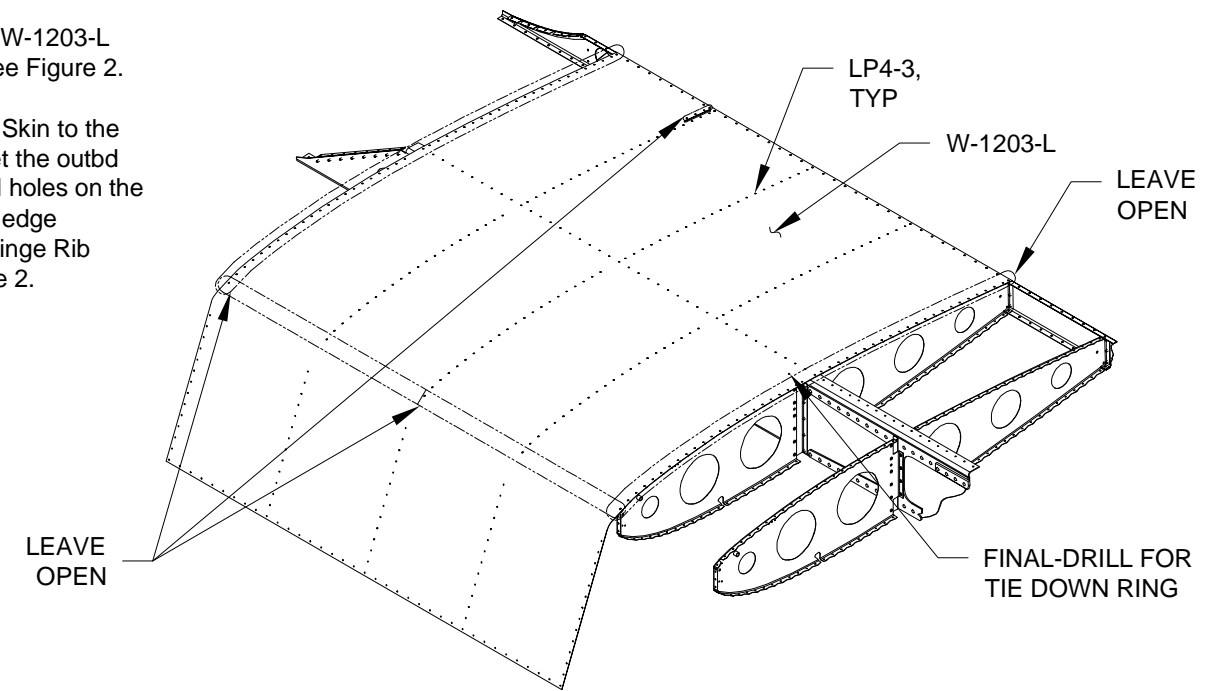
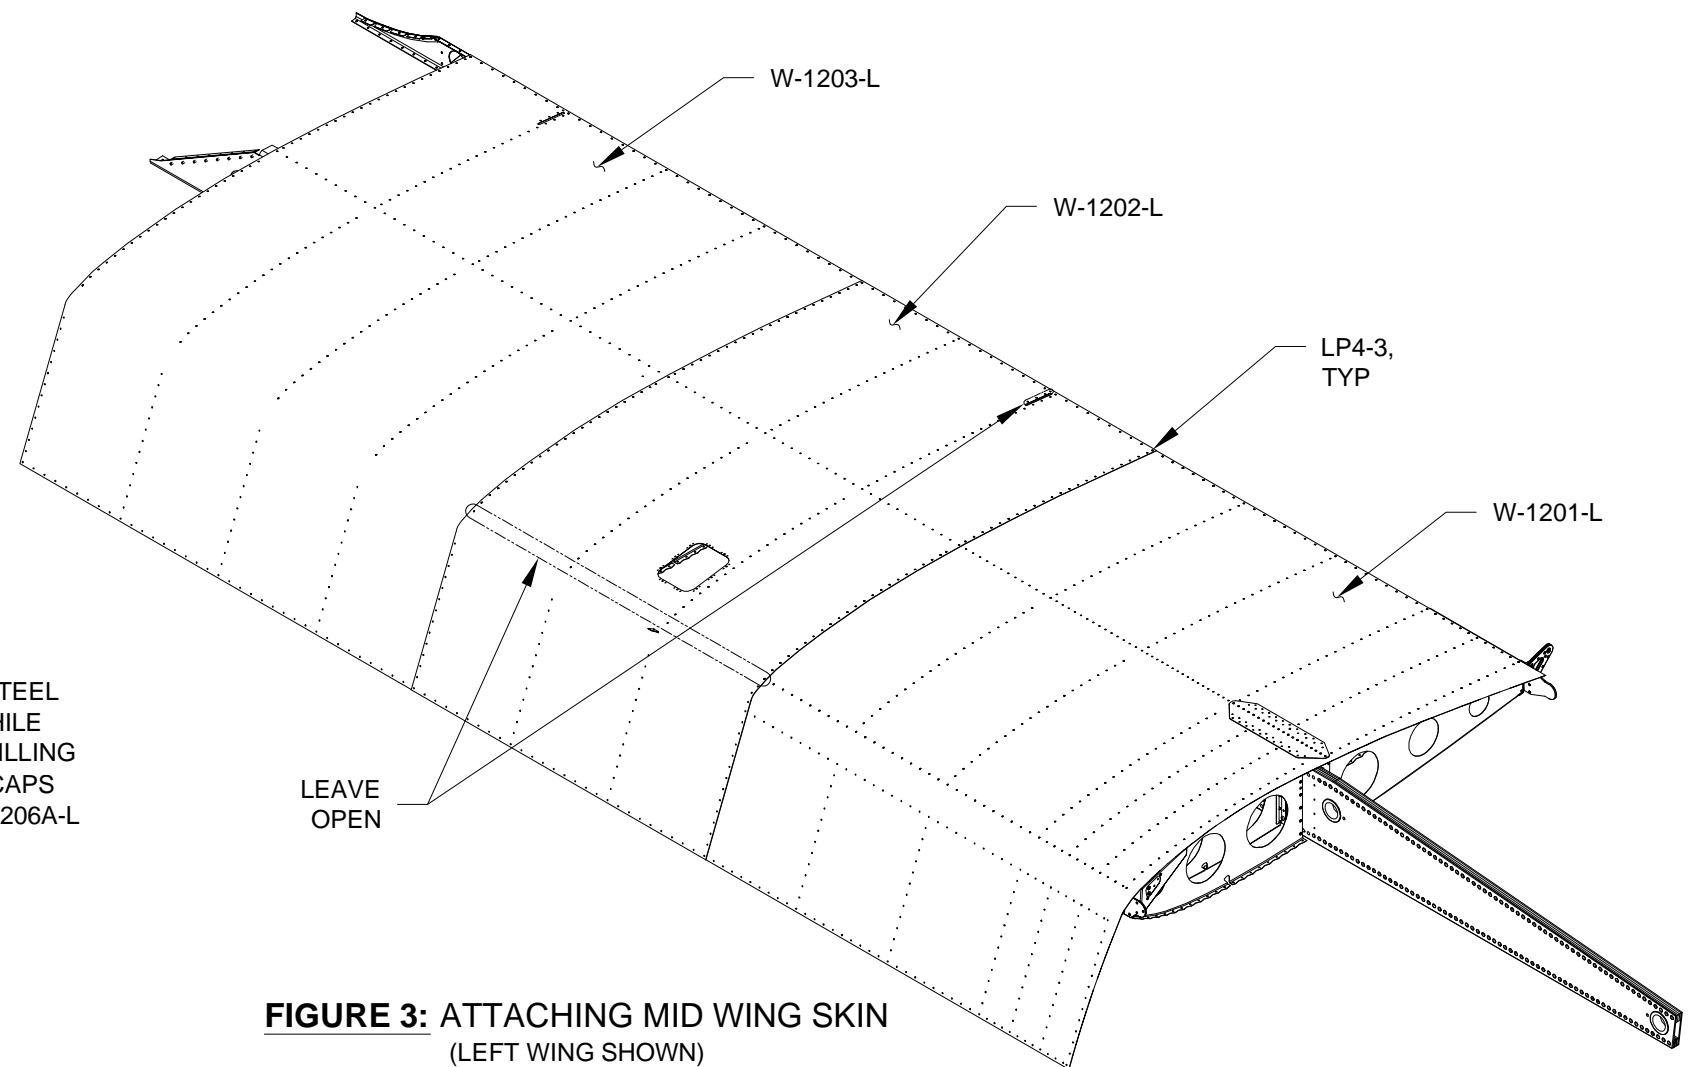

FIGURE 2: ATTACHING OUTBD WING SKIN (LEFT WING SHOWN)
FIGURE 3: ATTACHING MID WING SKIN (LEFT WING SHOWN)
Step 8: Final-Drill 3/8 the #30 hole in the W-1203-L Outbd Wing Skin for the tie down ring. See Figure 2.
Step 9: Cleco the W-1203-L Outbd Wing Skin to the wing skeleton as shown in Figure 2. Rivet the outbd wing skin to the skeleton leaving open all holes on the inboard and outboard edges, the leading edge holes, and the holes for the W-1216B-L Hinge Rib (Page 17-03 Figure 2) as shown in Figure 2.
Step 10: Cleco the W-1202-L Mid Wing Skin to the wing skeleton as shown in Figure 3. Rivet the mid wing skin to the wing skeleton leaving open the 1st holes aft of the leading edge and the holes for the W-1216B-L (Page 17-03 Figure 2) as shown in Figure 3.